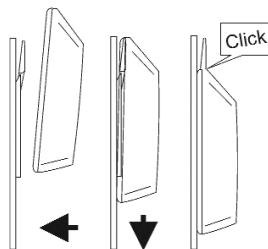

Fig. 3
3. Place the display flat against the bracket slightly higher than the final position and slide gently down into position. There will be a small click as the bracket secures the display into position (Fig.3).